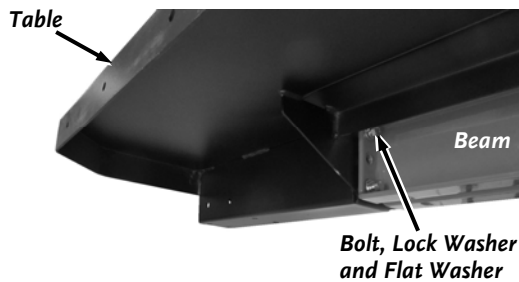

Figure 13
3. Install the front of the Tray to the Beam with four 3/8-16 x 1-1/4" Bolts, Flat Washers and Lock Washers using a 9/16" Wrench (Figure 13).